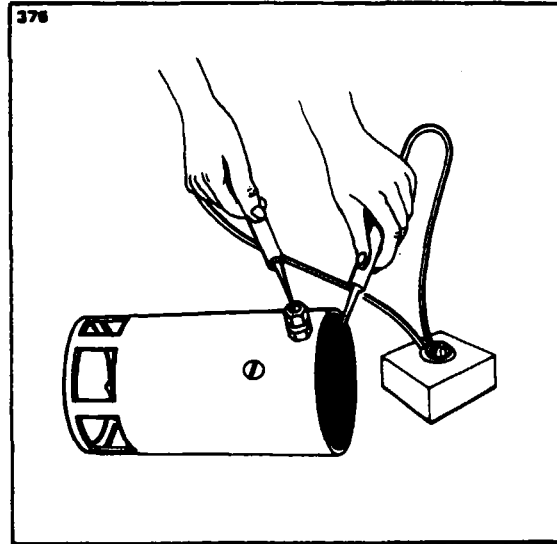

Figure 11-63. Testing Motor Fields for Grounds
a. Check the field coils for grounds (Refer to Figure 11-63) by placing one test probe on the frame and the other on the starter terminal. Be sure the brushes are not accidentally touching the frame. If the lamp lights, the fields are grounded. Repair or replace.